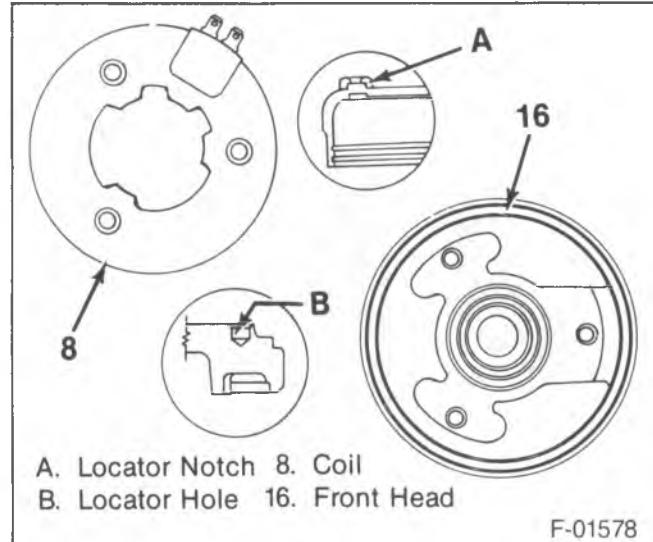

Figure 11—Adhesive Fill Guide
→↔ Install or Connect (Figures 11 and 12)
1. Adhesive to the clutch coil (8) (figure 11).